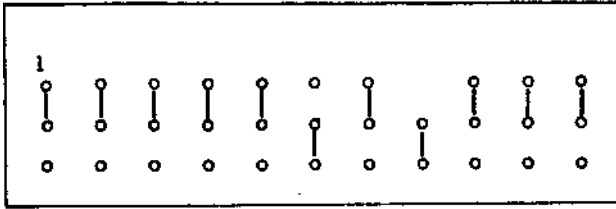
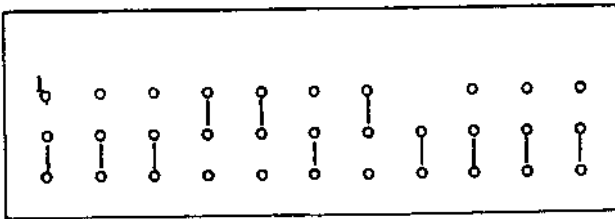

FIG 1 CONFIGURATION 1
FIG 3 CONFIGURATION 3
- 2.13.2 Further check that the board jumpers are fitted as in fig 1.
3.2 Figure 1 through to figure 3 show the jumpers for each configuration.